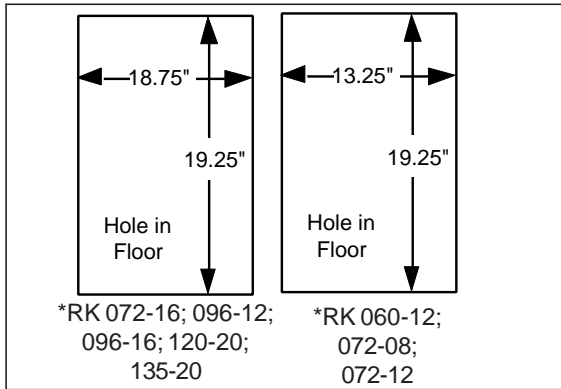

Figure 2. Opening for Concrete Slab
1. Construct a hole in the floor per the dimensions in Figure 2.